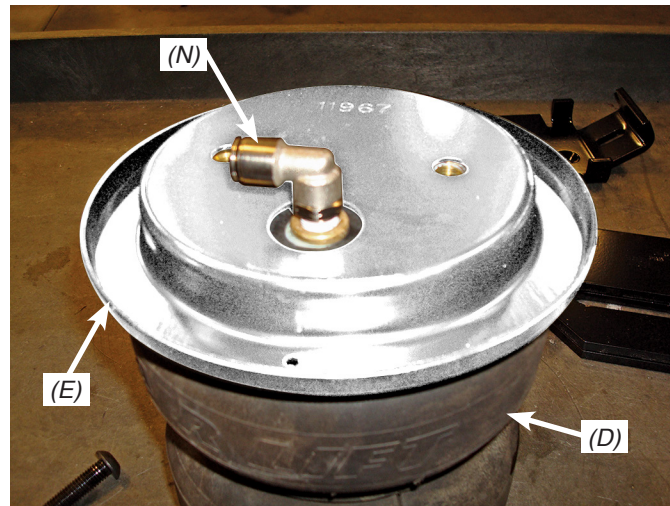

fig. 7
2. Install the Swivel Fitting (N) into the top of the Air Spring finger tight plus one and a half turns (fig. 7).